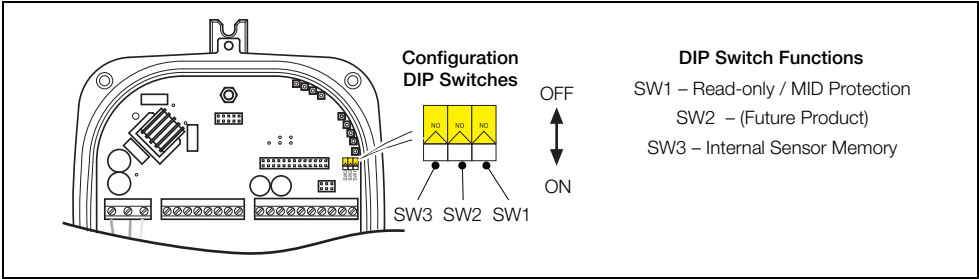

Fig. 3.20 Configuration DIP Switches
4. For high integrity / security installations, set DIP switch SW1 to the 'ON' (Read-only) position – see Fig. 3.20, page 22.
5. Align the transmitter cover with the housing and tighten the four cover screws (C) carefully.
6. For high integrity / security installations or where MID is required, fit anti-tamper seals to the security fixtures (D).
Note. If this screen is displayed on an integral transmitter, check that DIP switch SW3 is in the 'ON' position (refer to Fig. 3.20, page 22).
To correct this condition, set DIP switch SW3 to the 'OFF' position (refer to Fig. 3.20, page 22).